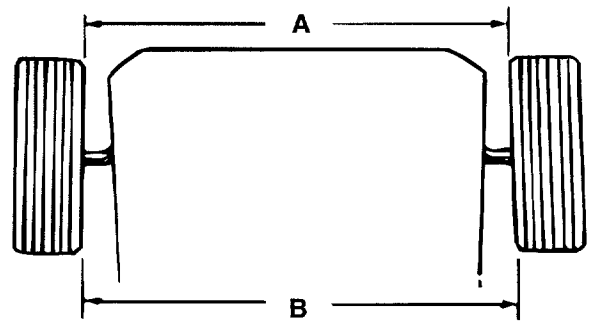

FIGURE 20.
2. Adjust the tie rod in or out until the wheels toe-in approximately 1/8" (Dimension "A" should be approximately 1/8" less than dimension "E"). See figure 20.